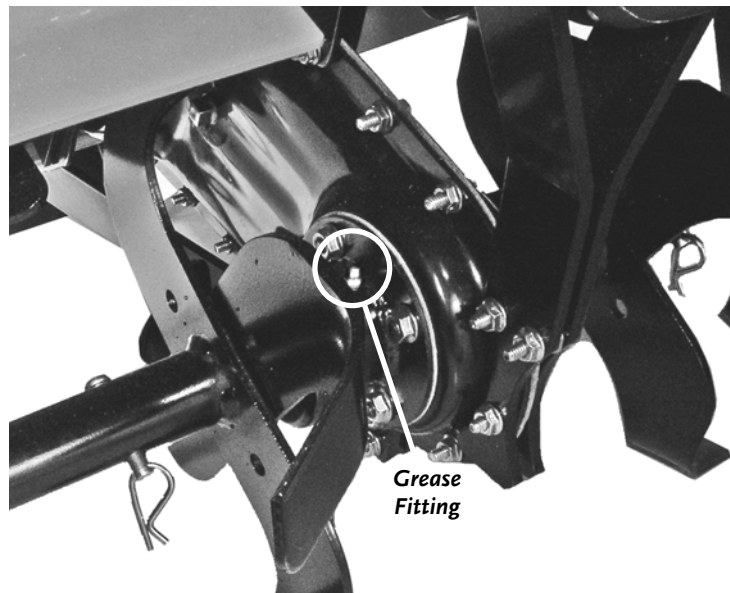

Figure 18
Grease the Tines Shaft using a Grease Gun with General Purpose grease every 8 – 10 hours. Apply about ten (10) pumps of the grease in the Grease Fitting (**Figure 18**). Perform this lubrication more often in dry and dusty environments.